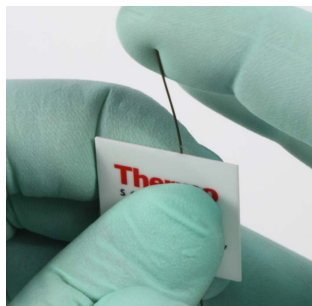

Figure 4: Completing step 3 of the metal column cutting process
3. Support the column on the cut side with the wafer, and bend the column back the other way (towards the cut side) as shown in Figure 4. This should snap the column on the other side and leave a clean break. If necessary, examine the cut with a magnifying glass.